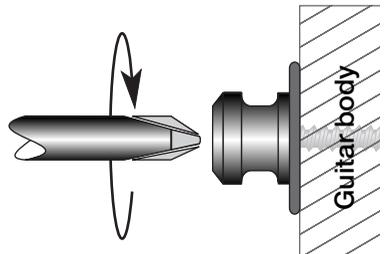

fig. 3
- If the original screws can be reused, use them to attach the Security Lock buttons. This ensures the strongest and safest hold. Remember to use the soft pads, if there were any. Be careful not to damage the instrument's finish with the screwdriver. You can use a piece of soft cloth to protect it (fig. 3).